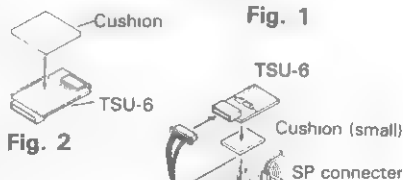

Fig. 2
5. Remove the backing from the cushion (small) that was provided the TSU-6 and attach it to the back of the TSU-6. (Fig. 2)